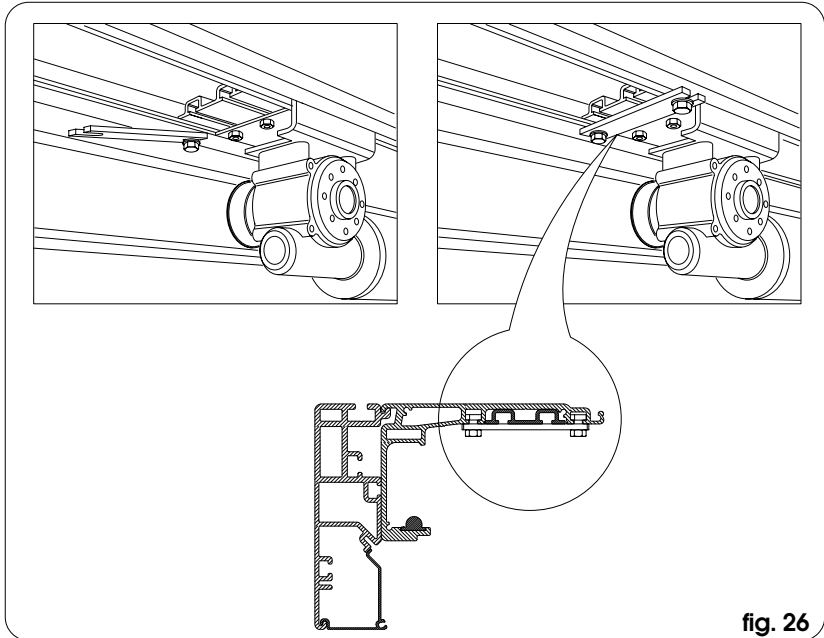

fig. 26
- Secure the activation module with the 4 pre-located brackets, using the 4 tie-screws and nuts supplied (fig. 26).